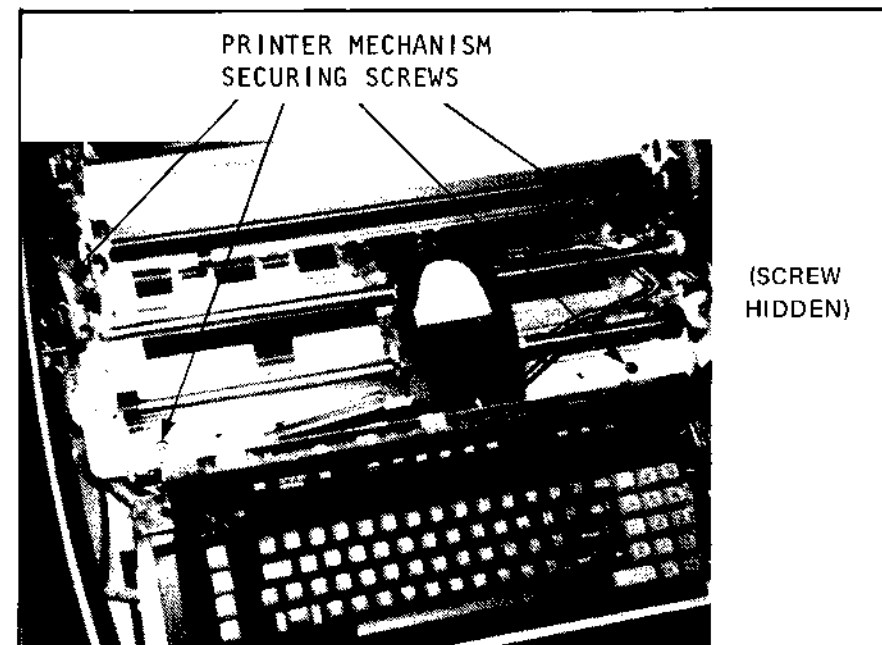

Figure 4-6 Printer Mechanism Base Retaining Screws
4.4.1 Disassembly (Figure 4-6)
- h. Refer to Figure 4-6. Remove four screws securing the printer mechanism to the base and lift the mechanism out of the base.